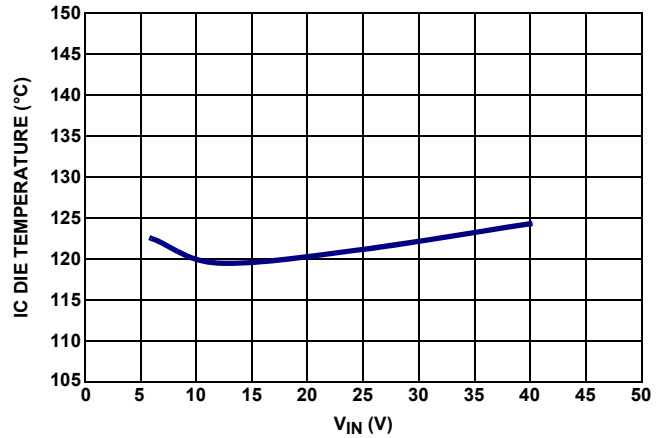

FIGURE 12. IC DIE TEMPERATURE UNDER +105°C AMBIENT TEMPERATURE, 100 CFM, 500kHz, V_{OUT} = 5V, I_O = 2A
Second: From the thermal perspective, the die temperature shouldn't be above +125°C with the power loss dissipated inside of the IC. Figures 12 through 14 show the thermal performance of this part operating at different conditions. The part can output
Figure 12 shows a 5V, 2A output application over V_{IN} range under +105°C ambient temperature with 100 CFM air flow.
Basically, the die temperature equals the sum of ambient temperature and the temperature rise resulting from power dissipated from the IC package with a certain junction to ambient thermal impedance θ_{JA} . The power dissipated in the IC is related to the MOSFET switching loss, conduction loss and the internal LDO loss. Besides the load, these losses are also related to input voltage, output voltage, duty cycle, switching frequency and temperature. With the exposed pad at the bottom, the heat of the IC mainly goes through the bottom pad and θ_{JA} is greatly reduced. The θ_{JA} is highly related to layout and air flow conditions. In layout, multiple vias (20) are strongly recommended in the IC bottom pad. In addition, the bottom pad with its vias should be placed in ground copper plane with an area as large as possible connected through multiple layers. The θ_{JA} can be reduced further with air flow. Refer to Figure 12 for the thermal performance with 100 CFM air flow.